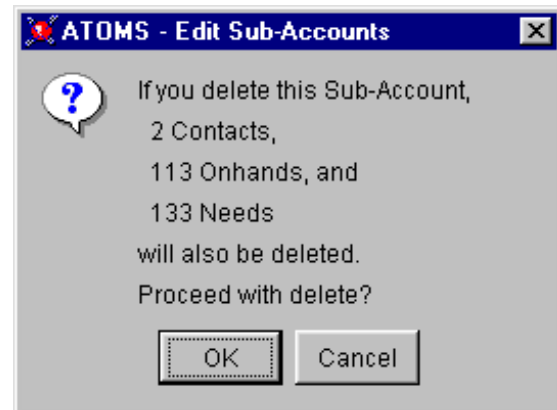

Figure 4-10. Proceed with Sub-Account Delete
- 4) Click **Delete** on the Delete Sub-Account window. If there are any Contacts, On-Hand records, or Needs associated with the Sub-Account, a dialogue box appears displaying the number of associations that will also be deleted (Figure 4-10). Click **Ok** (or press **Enter**) to continue. The dialogue box disappears, the Delete Sub-Account window disappears, and the Edit Sub-Account window displays the updated list.